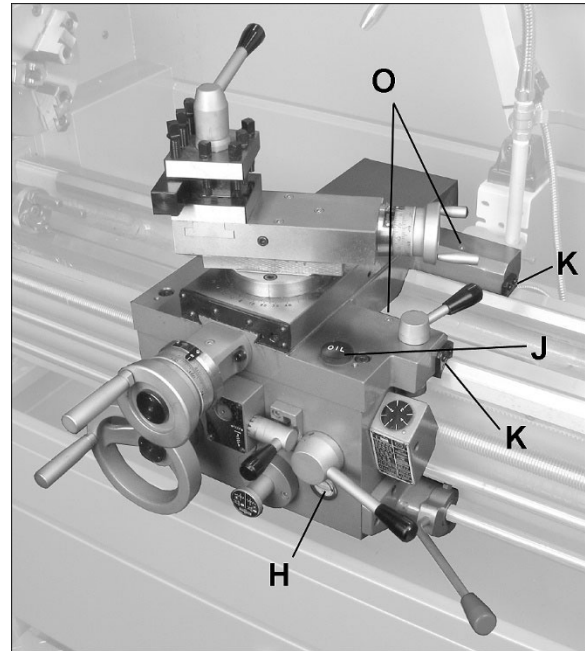

Figure 7-4 (cutting tool not provided)
5. **Apron** – Oil must be between indicator marks in oil sight glass (H, Figure 7-4). Top off with SAE 20W oil. Unscrew oil cap (J, Figure 7-4) to fill. To drain, remove drain plug on underside of
6. **Saddle** – Daily lubricate four ball oilers (O, Figure 7-4 and 7-5).
The anti-dust wipers on both ends of saddle (K, Figure 7-4) should be cleaned weekly with kerosene. If a wiper becomes damaged, replace it.